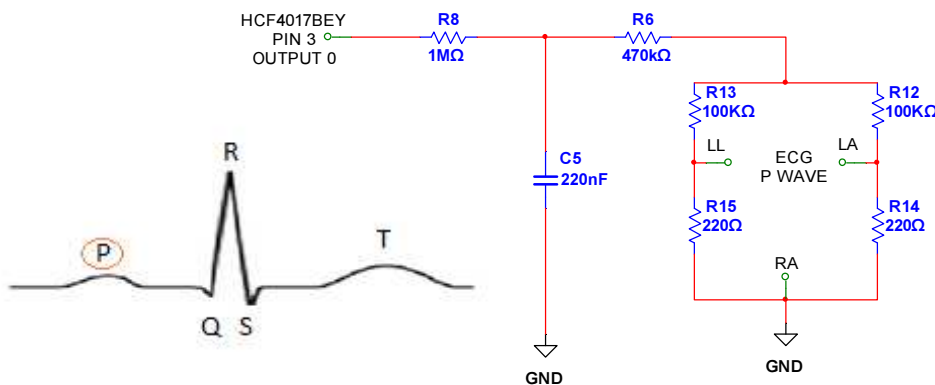
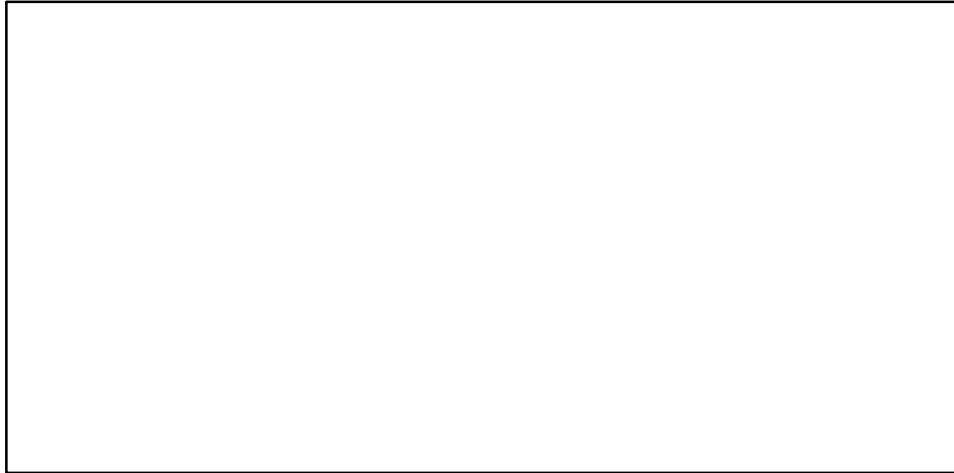

Figure 10 – P wave output circuit.
Figure 11 – Thévenin's equivalent circuit for the charge for the capacitor C5 during the P wave.
Figure 10 shows the circuit responsible for the P wave
10. Remove the capacitor C5 from the circuit in Figure 10 and use Thévenin's Theorem to calculate and draw in Figure 11 the equivalent voltage and resistance during the capacitor charge.